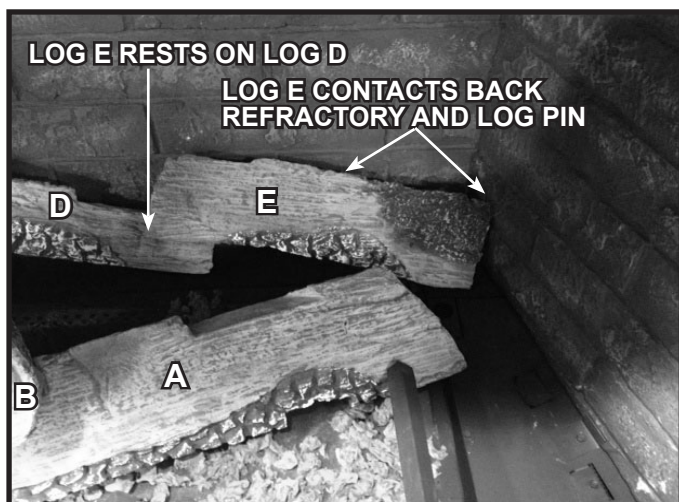

Figure 9. Log E Installed
5. **(LOG E):** Locate the pin for Log E in Figure 4. Place Log E into the appliance with the burned out area facing the front of the appliance. The right end of the log should rest against the log pin, and the left end of the log should rest on Log D. The back of Log E should contact the back refractory. See Figure 9.